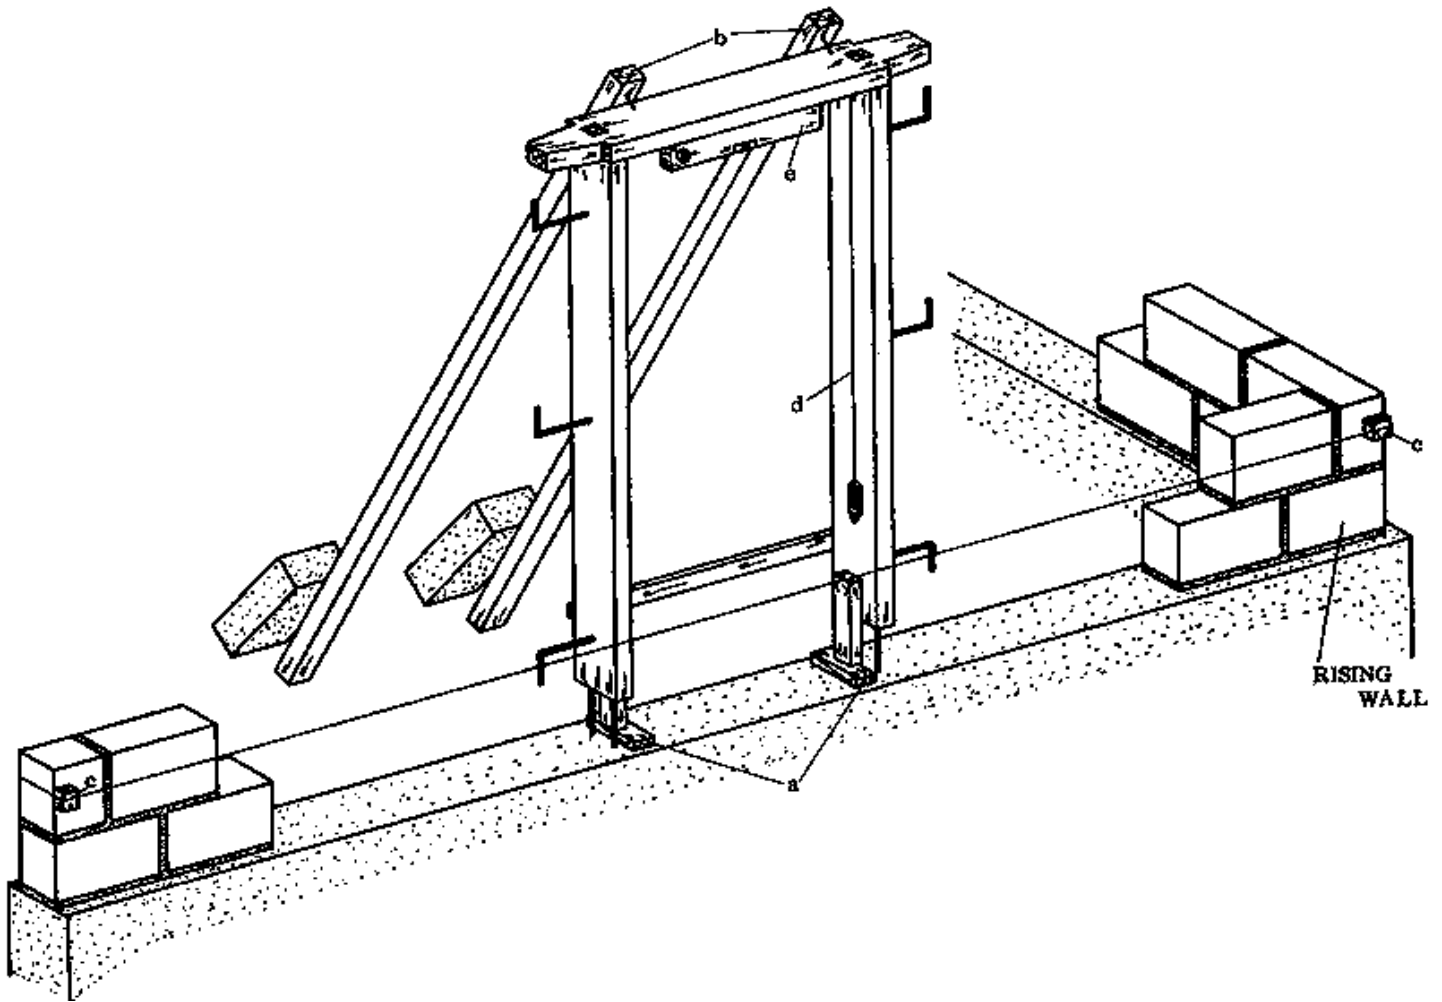
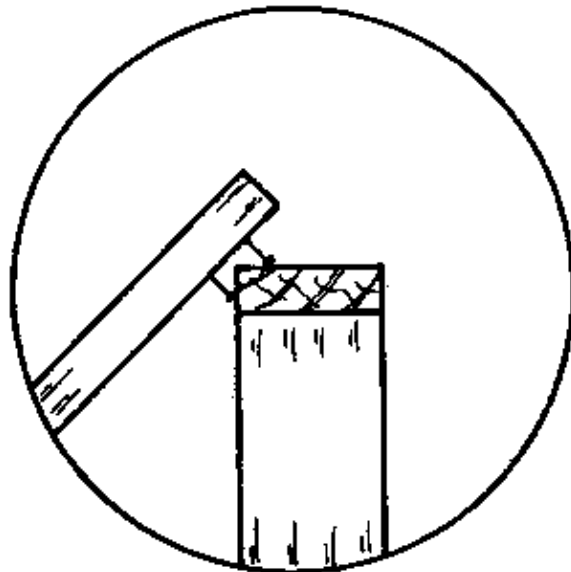

Fig. 1
Fig. 2
- g. Cut and nail the other squaring strip diagonally from the head to the post (Fig. 1, last page). This holds the frame square.
- j. Nail wooden spacers into the inside of the rebate. These keep the frame at the correct height during the building operations (Figs. 1 & 2, page 70).
– SETTING FRAMES DURING MASONRY CONSTRUCTION: The first frames to be set are those of the outside walls. When the masonry work has been built to floor level, the door frame is placed in position according to plan and at the correct height, and held there by means of wedges (Fig. 1, a, next page).
To hold the frame in position during the following building operations, we use struts. These are braced against blocks on the ground and lean up to the head of the frame, where they are secured with two nails (Fig. 1, b, and Fig. 2, next page).
The masonry line is used to align the frame with the face of the wall. The line is fixed at the two corners of the wall and two small wooden blocks are used to hold the line out from the wall by the same amount as the thickness of the future render layer; so that the line shows the position of the face of the render on the finished building (Fig. 1, c, next page).
Because the posts are long, the plumb bob is the best tool for making sure that the frames are straight and upright. Hold the bob at the inside top of the frame, so it has room to swing freely (Fig. 1, d). Check both posts (Reference Book, page 5)